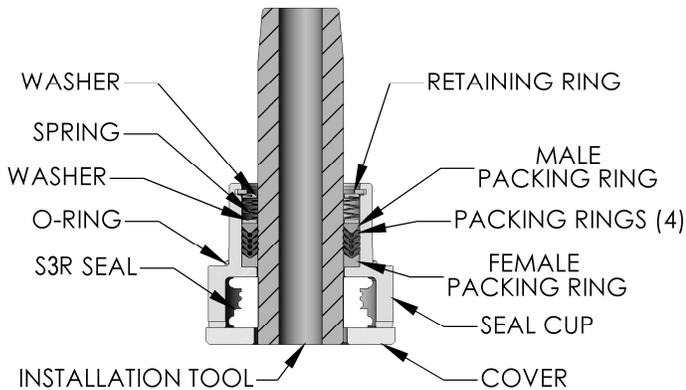

Figure 20a – Seal Cup Assembly
- Install the S3R seal in the seal cup as shown in figure 20a. Place the S3R seal on the packing installation tool in the order shown in figure 20b, with the upper segment toward the tapered end of the installation tool. Insert the installation tool, with the S3R seal, into the seal cup, with the tapered end toward the packing rings. Place seal cup cover on seal cup and secure with two capscrews.